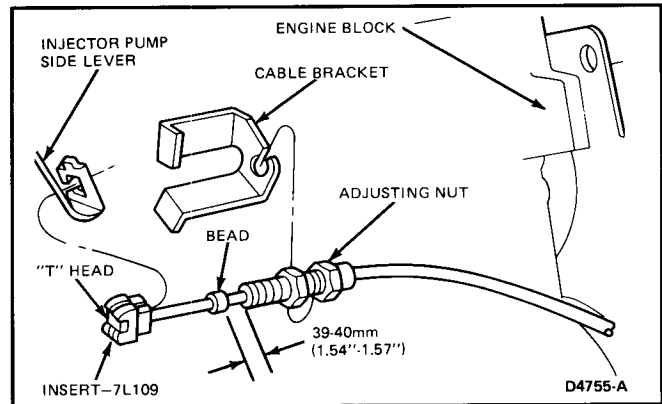

FIG. 21 Kickdown (TV) Cable (In Engine Compartment)—Exploded View
- In the engine compartment, remove the cable and insert from the injection pump side lever and cable bracket (Figs. 21 and 22).
- a. Spin the rearward adjusting nut back to the end of the threaded barrel and place the threaded barrel through the slot in the cable bracket (Figs. 21 and 22).
- b. Pull the threaded barrel into the hole in the bracket (Figs. 21 and 22).
- e. Slide the bead along the cable until there is a gap of 39-40mm (1.54-1.57 inch) between the end of the threaded barrel and the end of the bead closest to the barrel (Fig. 21).
- b. Snap the "T" head into the insert trunnions (Fig. 21).
- c. Snap the insert into the lower rectangular hole in the injection pump side lever after threading the braided cable core through the slot (Fig. 21).